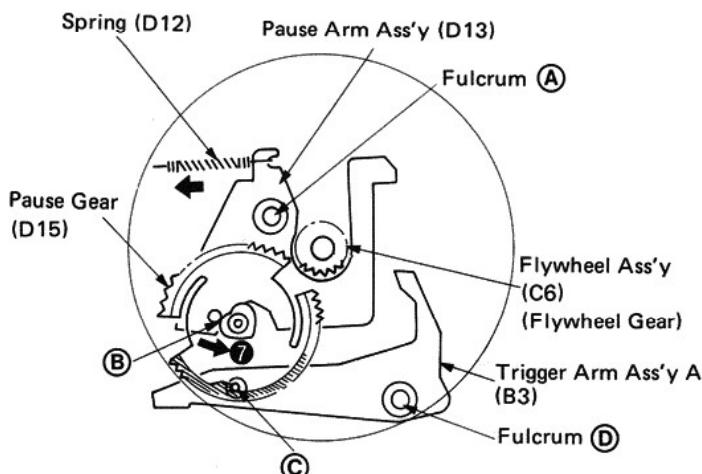

Fig. 6
In the PLAY mode the pause arm assembly (D13) is pulled by the spring (D12) pivoting on fulcrum **(A)**. The pause gear (D15) is pushed in the **⑦** direction at point **(B)** and locked by the trigger arm assembly (B3) at point **(C)**. Thus the pause gear does not rotate. (Fig. 6)